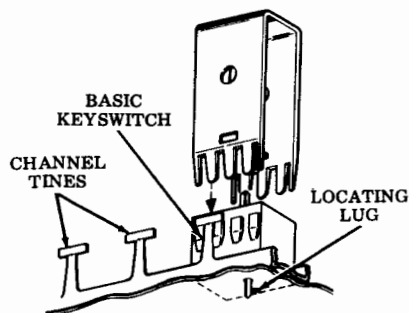

Fig. 10—Keyswitch Removal
- (d) Place 346257 tool over the keyswitch and press downward. When the tool bottoms and embossed projections snap into notches on keyswitch, squeeze and pull back on the tool to lift keyswitch out (Fig. 10).